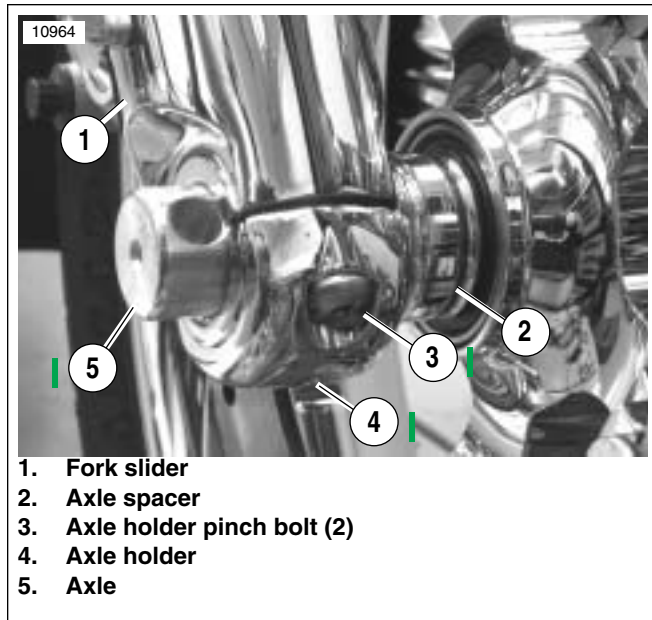

Figure 2-9. Aligning Fork to Wheel
2. See Figure 2-9. Place wheel and spacers into front fork and install axle (5). Verify that axle spacers on right and left side are properly installed.
4. Pull fork leg so that it just contacts the axle spacer (2) and then tighten axle holder pinch bolts (3) to 16 Nm (12 ft-lbs). Ensure that gap between the axle holder (4) and the fork slider (1) is equal at front and rear of axle holder.